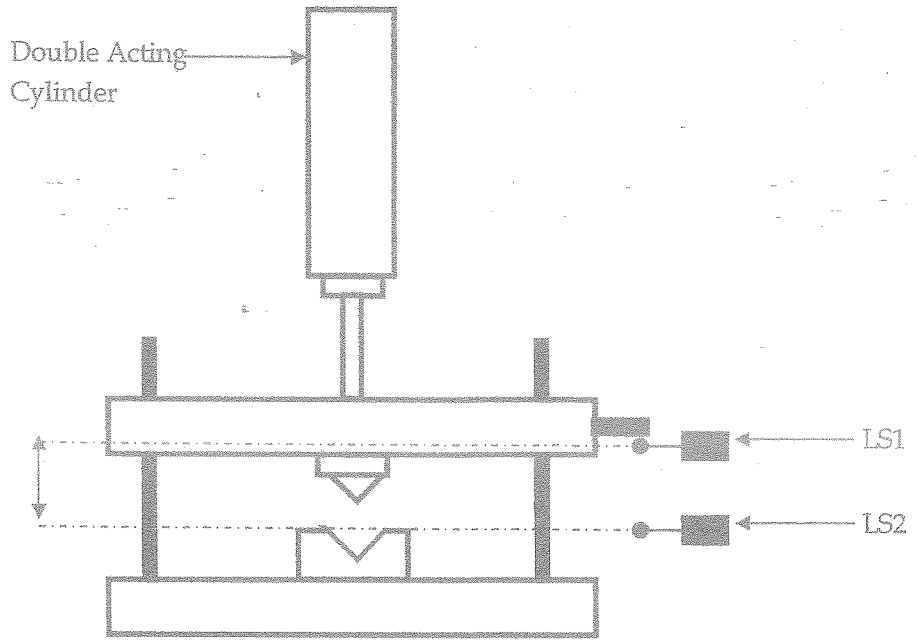

Figure Q3(d): Press Machine
- d) Figure Q3 (d) shows an electro-pneumatically operated press machine. Once switched ON, the machine should satisfy following requirements.